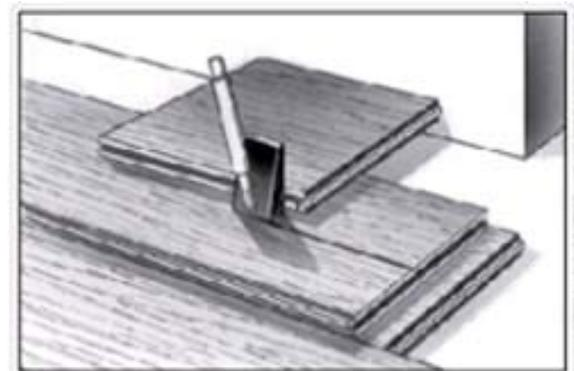

Fig. 16
17. Place the row of planks to be fit on top of the last row of installed planks. Use a divider or a piece of the plank as a scribe to trace the contour of the wall (Fig. 16).
18. Be sure to place a spacer between the marking pen and "scribe" piece of board. This adds the 1/4" (6.35 mm) to 1/2" (12.7 mm) space you need at the finish wall (Fig. 16).